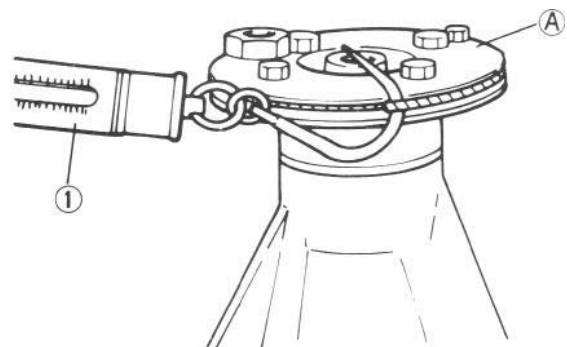

Fig. 16-23 ① Spring balance
The bevel pinion, as installed in normal manner in carrier, is required to offer a certain torque resistance when checked by using prescribed preload adjuster (special tool ①) as shown in Fig. 16-23. This resistance is a "preload," which is due to the tightness of the two tapered roller bearings by which the pinion is held in the carrier. And this tightness is determined primarily by tightening torque of bevel pinion nut. Adjust preload of bevel pinion bearings as follows.
- 1 Adjust preload on side bearing during back-lash adjustment: mount special tool on drive bevel pinion as shown in Fig. 16-23 and measure using spring balance
- ① If reading at the instant bevel gear starts moving is within the range given below, side bearing preload is acceptable. Referring to the graph, for example, when the drive bevel pinion bearing preload measured as shown in Fig. 16-23 is 2.6 kg (5.73 lb), drive bevel pinion bearing preload (kg) + bevel gear side bearing preload (kg) should be 2.8 – 3.2 kg (6.17 – 7.05 lb).